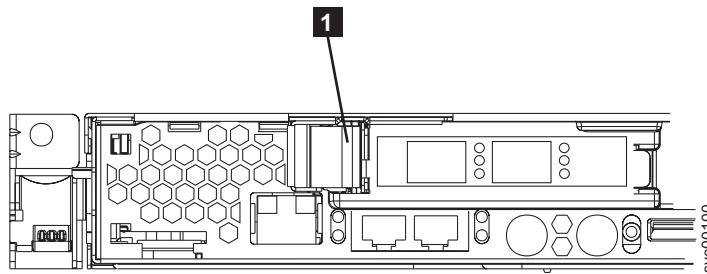

Figure 146. PCI slot 1 card retainer
1. Install the fibre-channel card in slot 1. See Figure 146.